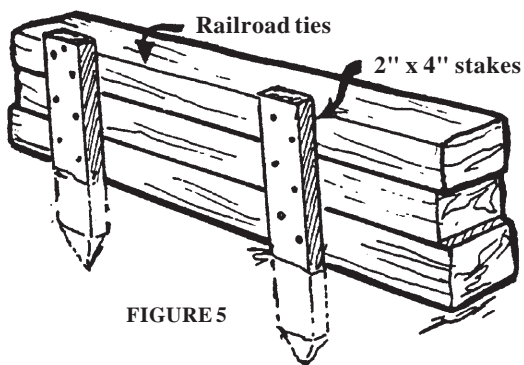

FIGURE 5
3. Using railroad ties: nail railroad ties to two or more 2" x 4" stakes (Figure 5).